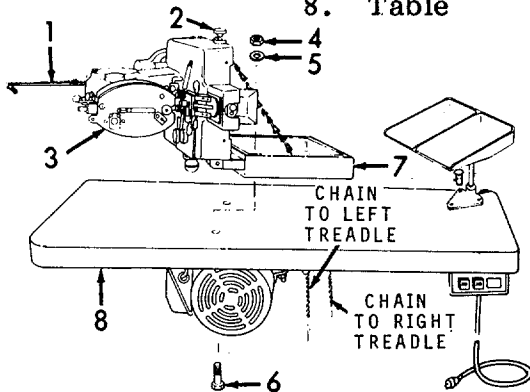

Figure 2-61. Button Sewing Machine, Removal.
- (1) Remove four nuts (2), four washers (3), four bolts (4), and four washers (5).
- (2) Remove grommet press (1) and stow in storage box number 1.
- (3) Reinstall four washers (5), four bolts (4), four washers (3) and four nuts (2) into table (6).
- e. *Disassembly of Button Sewing Machine (Refer to Figures 2-61 and 2-62).*
- (1) Remove thread unwinder (1) and stow in storage box number 3.
- (2) Remove pulley belt and stow in storage box number 3.
- (3) Loosen thumbscrew (2) and tilt head (3) back.
- (4) Disconnect chains from machine levers and treadles. Stow chains in storage box number 3.